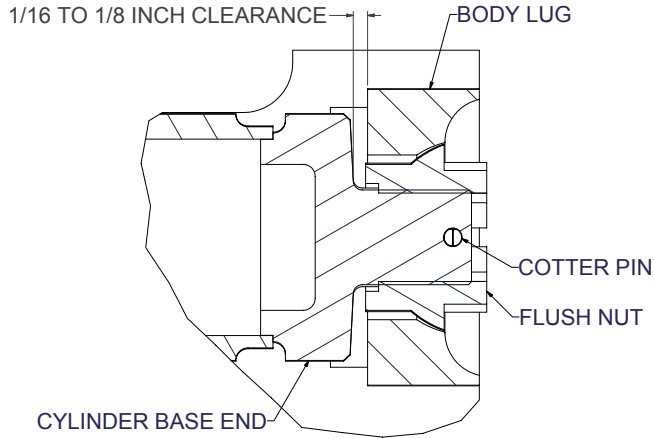

Figure 4-5, Body Lug
1. Apply a thin coat of bearing grease to the spherical portion of the flush nut and concave section of the body lug. Screw on the flush nuts until they stop. Back the flush nut off lining up the cotter pin hole in the rod or base end stud with the slot in the flush nut. **Do not tighten the flush nut tight to eliminate all clearance between washer and body lug.** Adjust to allow 1/16 to 1/8 of an inch clearance between the base end of the cylinder and the body lug. (Figure 4-5)